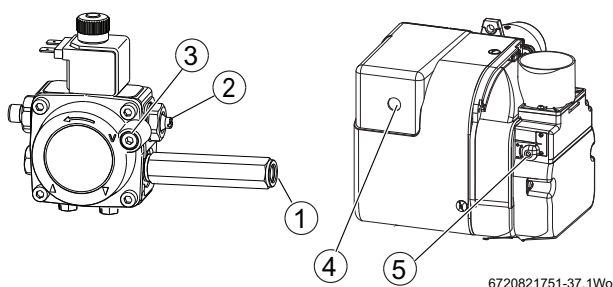

Fig. 39
When the oil reaches the pump, bleed the air from the pump as follows, refer to figure 39:
Refer to figure 39
- ▶ Check the CO₂ levels and adjust the air shutter (refer to figure 39 item [5]) setting according to tables 13 & 14 on page 30.
If the flue gas temperature is too high and the baffles are correctly fitted, then reduce the oil pump pressure (refer to figure 39 item [2]) 5-10 p.s.i. (0.35 - 0.67 bar) to compensate for nozzle variations.
- ▶ Replace the bleed/oil pressure port blanking plug (refer to figure 39 item [1]).